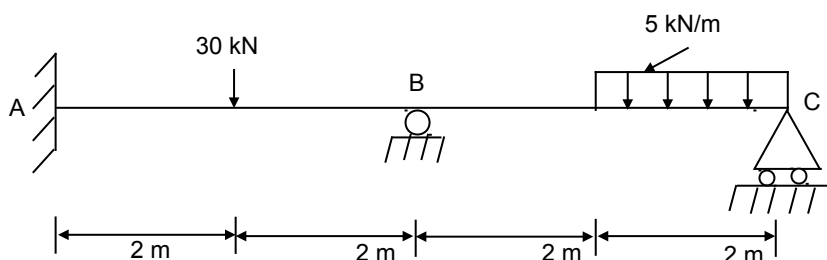

Figure 6
Q.6 Analyse the prismatic beam shown in Figure 6 using three-moment theorem and draw the bending moment diagram. The support B sinks by 5 mm. Take $EI = 36 \times 10^3 \text{ kN/m}^2$ as constant for the beam.